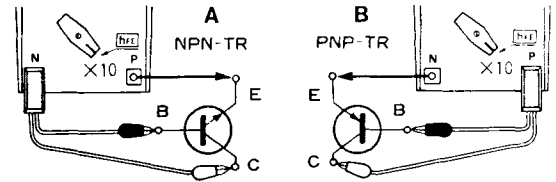

Fig. 12
- 3-5 Under the condition of Fig. 12-②, reading is noted on the blue  $h_{FE}$  scale. The value read is  $\frac{I_C}{I_B}$  which is the DC amplification degree of the TR tested.